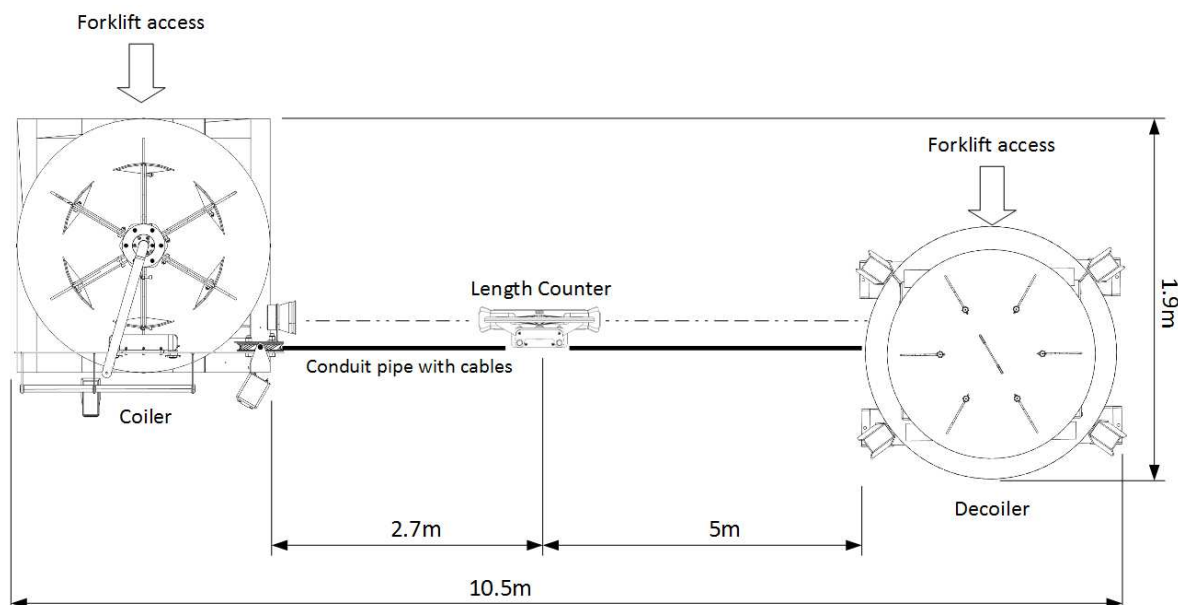

Figure 26: Floor plan
Shown in Figure 26 is the floor plan of the system once installed. Note that the auger should ideally run in a straight line from the decoiler, through the length counter and then through the coiler inlet. The system will still function even if these three elements are not completely aligned, but the layout shown below would yield optimum results.
- The floor layout in Figure 26 does not account for space for the operator to move around the units. It is advised that there should be at least 800mm space around the units for ease of access and maintenance.